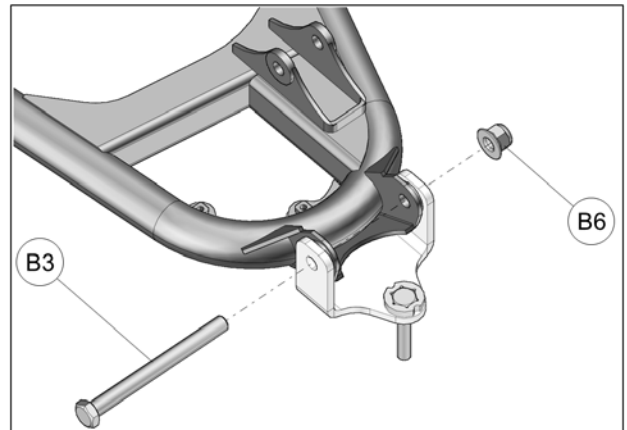

Fig. 8
7. Insert the new M12 bolt (**B3**) in the anchor bracket, through the lower suspension arm and the wheel hub. Thread the M12 nut (**B6**) on the bolt. Tighten the nut by hand temporarily. See Fig. 8